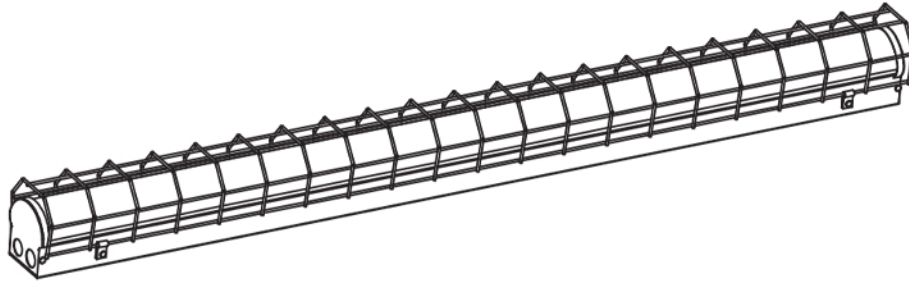

Figure 1
Step1:After installing the luminaire,Insert the provided chips(4 pcs) onto the wire guard.(fig 1).